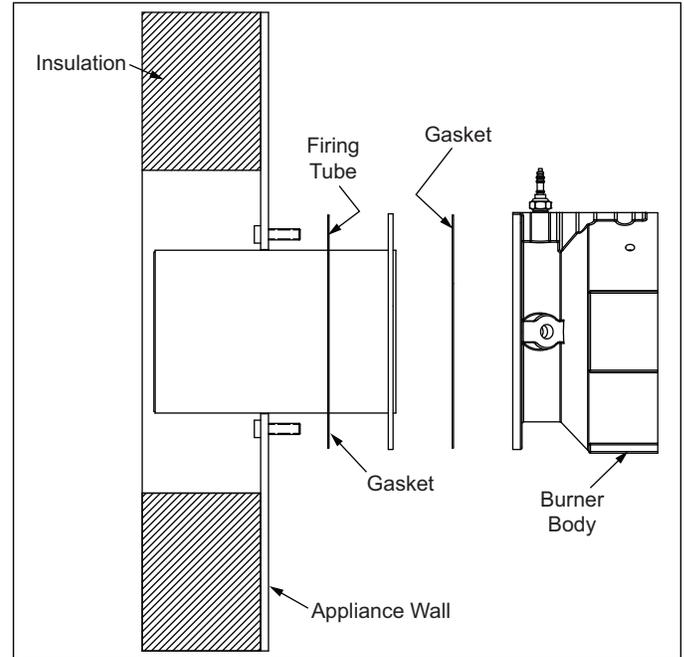
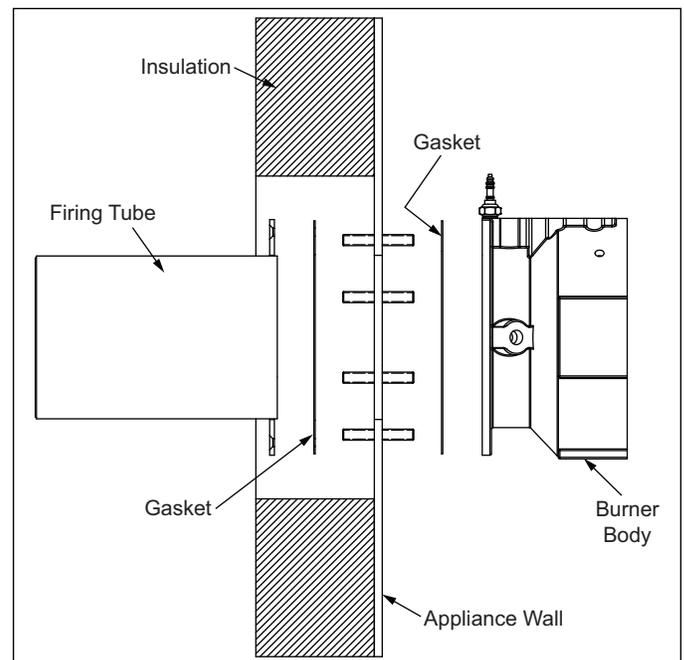

Figure 3.1. Mounting with Access to Inside of Appliance
Figure 3.2. Mounting with No Access to Inside of Appliance
Mounting the Burner **(see Figures 3.1 and 3.2)**
1. Figure 3.1 illustrates burner mounting when there is access to the inside of the appliance wall. This method is preferred since the tube can be removed for replacement or to allow servicing of the nozzle without disturbing the burner or its linkage and piping. Figure 3.2 illustrates burner mounting when there is no access to the inside of the appliance wall. The studs are pressed in or welded to the wall. The burner and the tube mount from the outside. The nozzle can be removed through the rear of the burner in these installations.
3. Bolts or studs can be utilized to mount the burner and firing tube to the appliance wall. Care should be taken to match the mounting bolt pattern to the burner mounting flange bolt circle. All Mark IV burners and firing tubes have (8) 9/16" diameter holes for mounting. Bolt circle diameters are as follows: 100 and 200 MF, 10-1/2"; 300 and 500 MF, 14-5/8". Bolts or studs used for mounting should be 1/2" NC